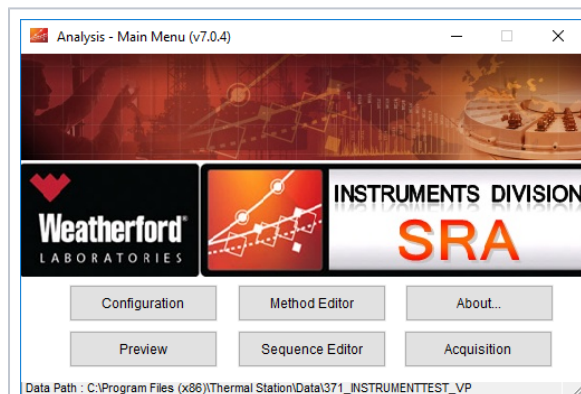

Figure 3: Acquisition software main screen
4. Double-click the **TStationAcq.exe** shortcut icon on the desktop to open the software *Main Menu* (Figure 3).
1. Click **Sequence Editor** on the *Main Menu* (Figure 3).